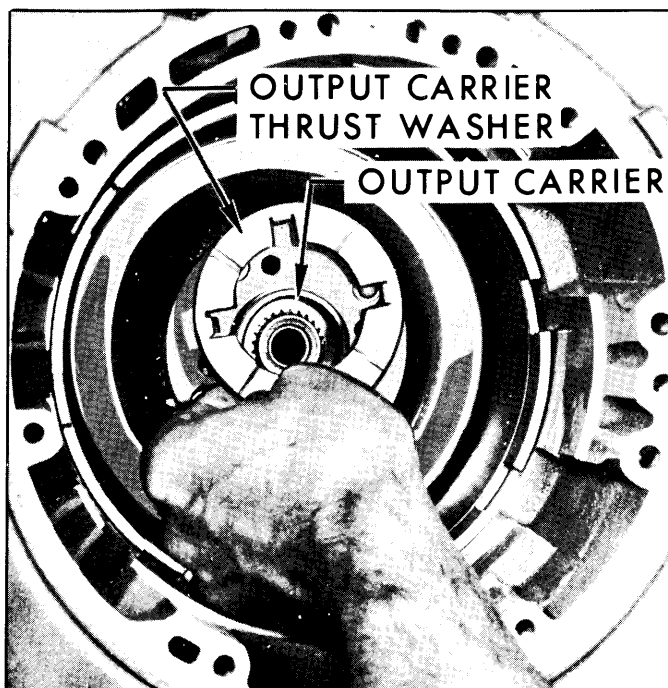

Fig. 7-42—Removing Input Ring Gear Rear Thrust Washer
10. Remove input ring gear rear (output carrier) thrust washer. (Fig. 7-42)